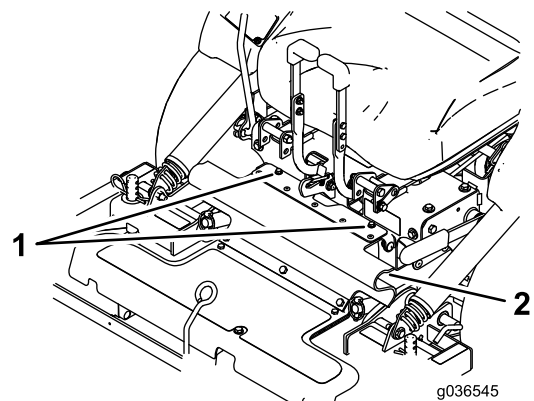

Figure 19
2. Loosen the bolts attached to the rubber guard (Figure 19).
3. Install the rubber guard with the bolts (Figure 19).